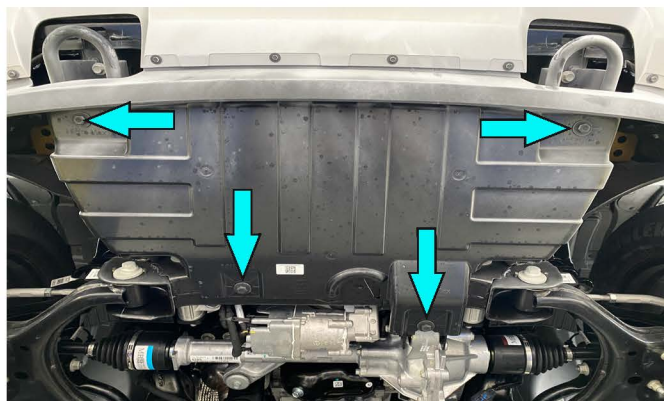

Fig.7
7. Unscrew OE bolts and remove OE plastic plate (fig.7.)